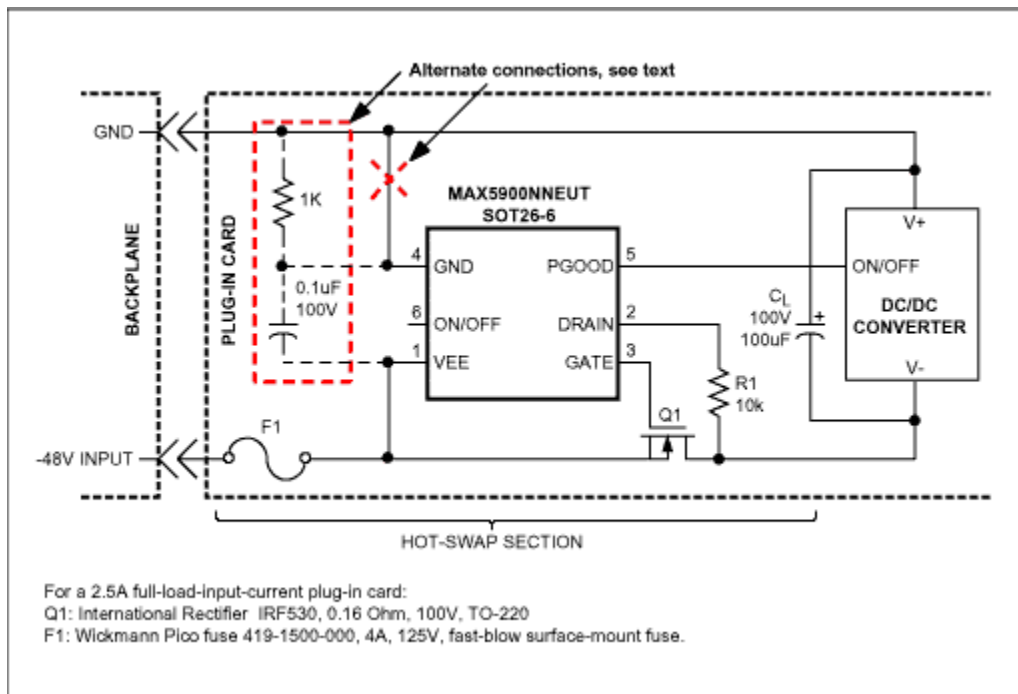

Figure 2. The MAX5900NNEUT hot-swap application circuit for telecom system
Figure 2 shows a simple telecom hot-swap controller circuit using the MAX5900NN to provide normal hot-swap protection without an internal circuit breaker; it satisfies system requirements in the presence of positive and negative input-voltage transients and protects the back-plane during output short circuits. Continuous operation in the presence of high-current bulk-capacitor charge during large input-voltage steps, as well as backplane protection from short-circuits, can be achieved when MOSFET and on-card fuse characteristics are selected to match system requirements.
- A lightning-induced transient can be positive, negative, or oscillatory in nature with the waveform lasting from several to a few tens of microseconds depending upon the effectiveness of the backplane input filter and transient suppressor circuitry. Associated narrow negative transients could extend below the minimum 9V operating range of the controller to cause momentary dropouts. If this condition is expected, the modifications to the circuit of Figure 2 inside the dashed lines would suffice for short-pulse (100msec) dropouts to zero volts. Conditions for survival of Q1 and the fuse in the presence of large negative pulses are similar to those for large positive pulses. See the Selecting Components section for further information
Both the fuse and Q1 should survive unharmed during positive or negative step transient testing, yet the fuse (and possibly Q1) should blow quickly under short-circuit conditions. Initially, the MOSFET and fuse selections are made to allow stable and uninterrupted operation under normal operating load conditions. Then consideration must be given to the 36V positive voltage step test condition or a large negative pulse step, and finally to the short-circuit condition. The selection process can be demonstrated using the example of Figure 2 for 2.5A full-load operation.